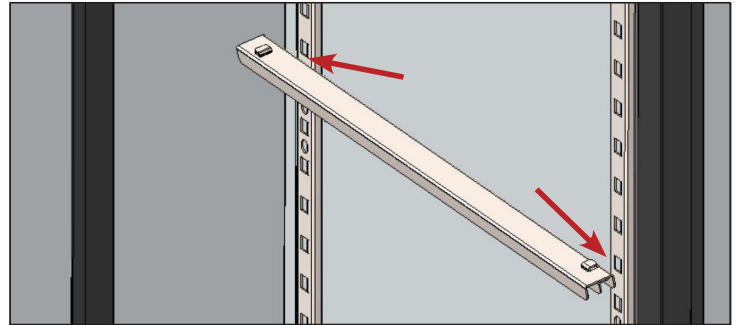

Fig. 1. Line the tabs up with the notches.
2. Align the shelf/pan slide tabs with the notches in the front and rear pilasters at the desired height. See fig. 1.